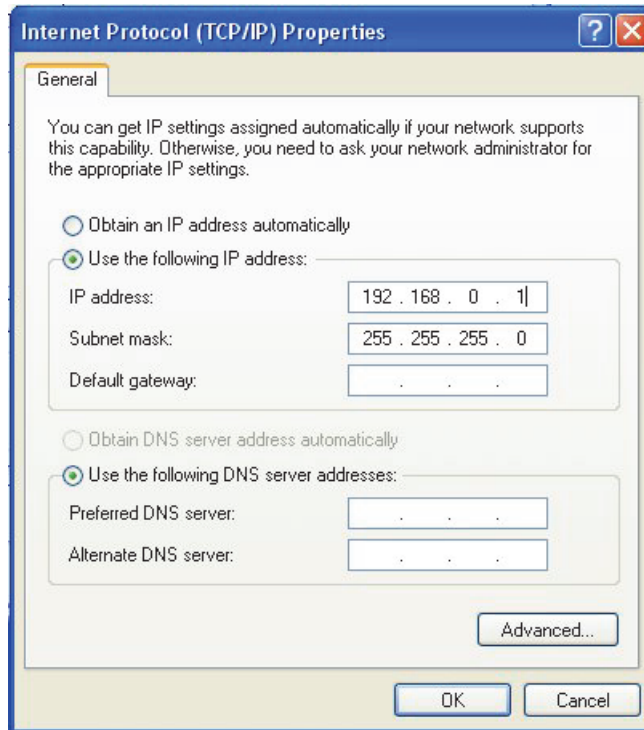

Figure 14-4 The Internet Protocol (TCP/IP) Properties dialog box (Windows XP)
The **Internet Protocol (TCP/IP) Properties** dialog box appears (see Figure 14-4 on page 298).
9. In the **IP address** text box, type an IP address (see Figure 14-4 on page 298).
10. In the **Subnet mask** text box, type a subnet mask (see Figure 14-4 on page 298).